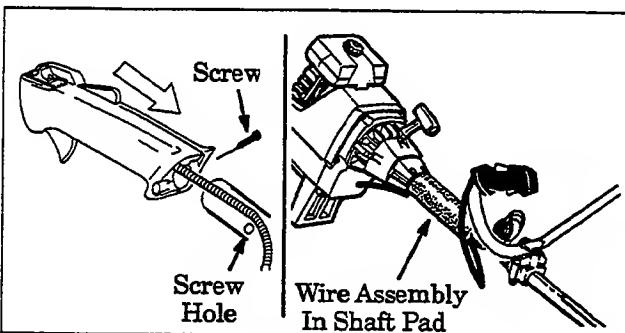

Figure 4
- a. Remove the rear screw from the trigger housing. Figure 4.